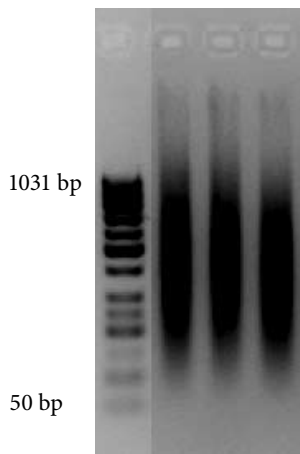

Figure 1: Example of optimally sheared chromatin prepared from 1×10^6 human embryonic kidney (HEK) cells according to the protocol in 4. Appendix.
8. Analyse DNA by 2% agarose gel electrophoresis. Use a 50bp DNA ladder. When DNA has been optimally sheared, it should have an even distribution of fragments from 200–1000 bp (figure 1).